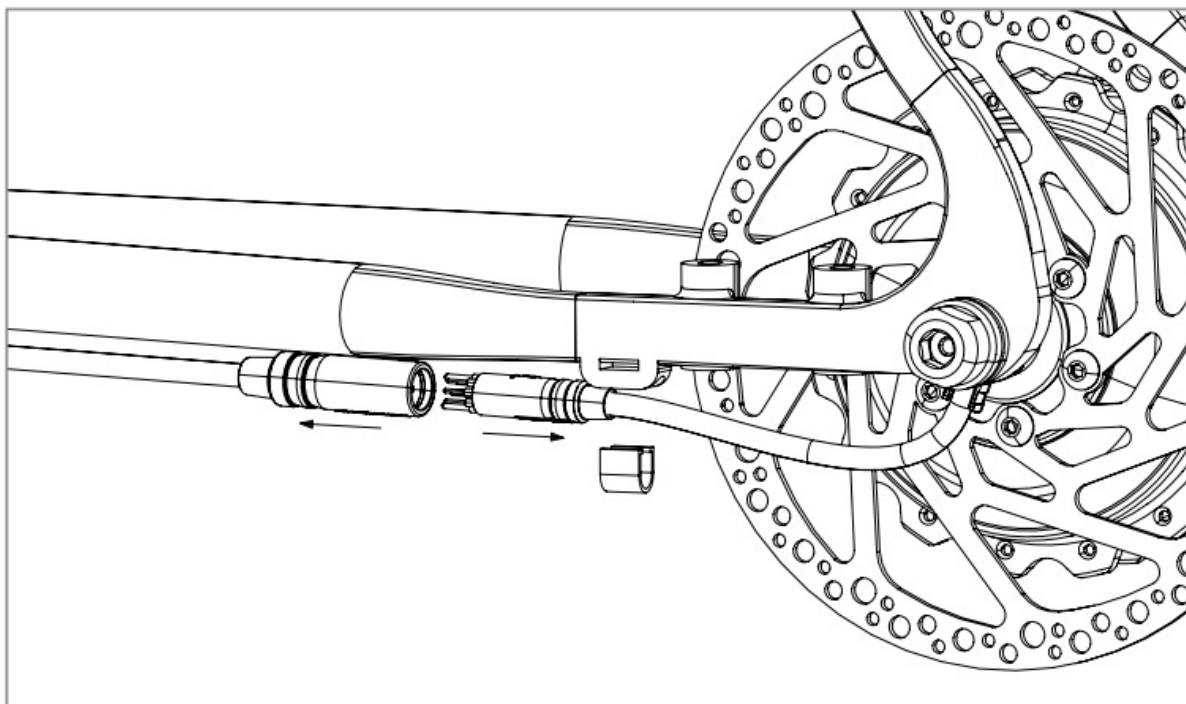

Figure 7
1. Disconnect the motor cable from the battery cable (Figure 7).